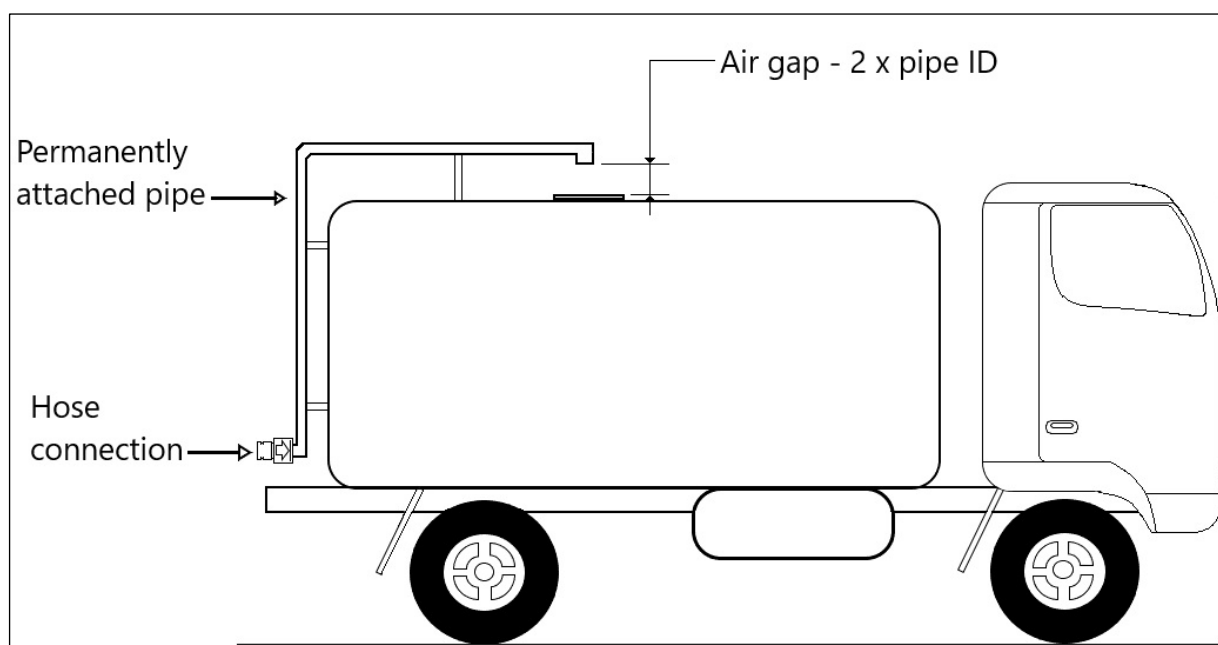

Figure 2: Requirement for Air Gap and Check Valve for Water Tanker
All water tankers are required to maintain a minimum air gap of 2 x the internal diameter (ID) of the water discharge pipe from the water spill level of the tanker to the bottom of the water discharge pipe (see Figure 2 below). This requirement is in accordance with AS/NZS3500.1 Plumbing and Drainage standard.